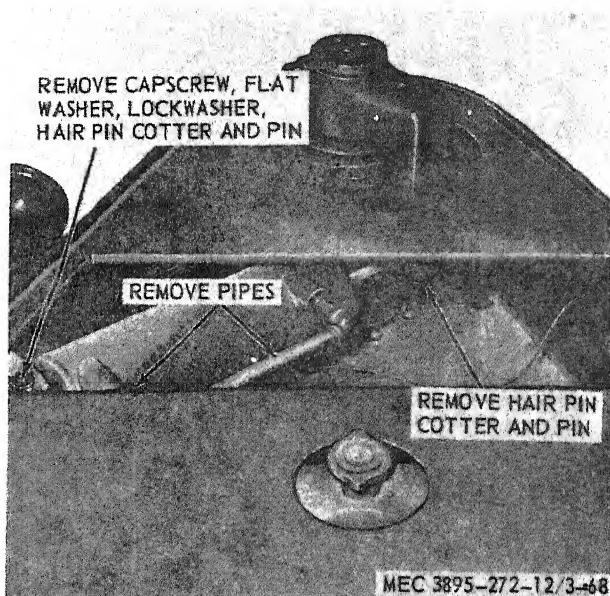

Figure 3-68. Steering cylinder, removal and installation.
- a. Removal. Remove the steering cylinder as instructed on figure 3-68.
- (1) Clean all parts with an approved cleaning solvent.
- (2) Inspect all parts for wear, defects, and damage. Replace worn, defective, or damaged parts.
- c. Installation. Install the steering cylinder in reverse of the instructions on figure 3-68.